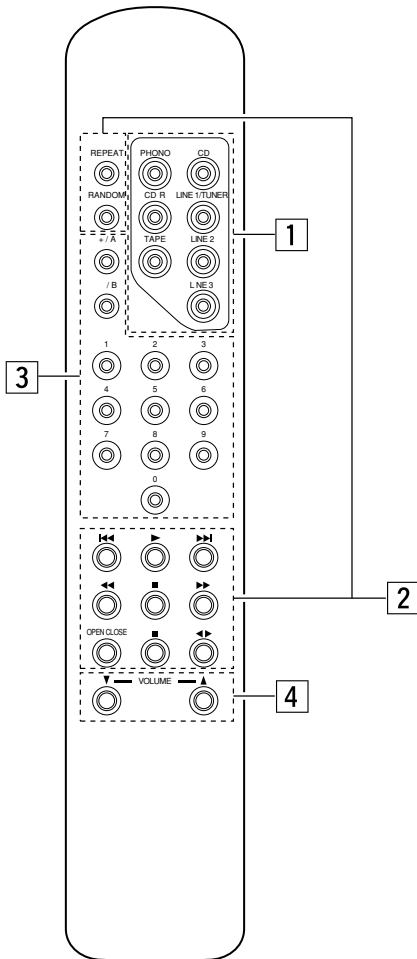

Figure 3
Button functions when the **TAPE 1** button (see **1** of the figure 3) is pressed:
Button functions when the **TAPE 2** button (see **1** of the figure 3) is pressed:
Button functions when the **CD** button (see 1 of the figure 3) is pressed:
Button functions when the **LINE 1 (TUNER)** button (see 1 of the figure 3) is pressed:
Button functions when the **LINE 2 (TV)** button (see 1 of the figure 3) is pressed:
Button functions when the **LINE 3 (DVD)** button (see 1 of the figure 3) is pressed: